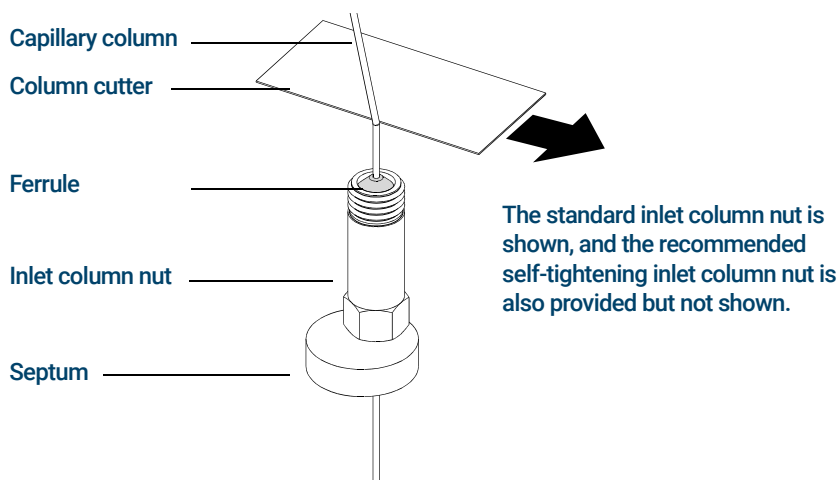

Figure 2. Preparing a capillary column for installation
- 2 Wearing clean gloves, slide a septum, column nut, and conditioned ferrule onto the free end of the column. **Figure 2** shows a traditional inlet column nut but the nut is similarly positioned for a self-tightening column nut. The tapered end of the ferrule should point away from the column nut for a column attachment to an inlet.